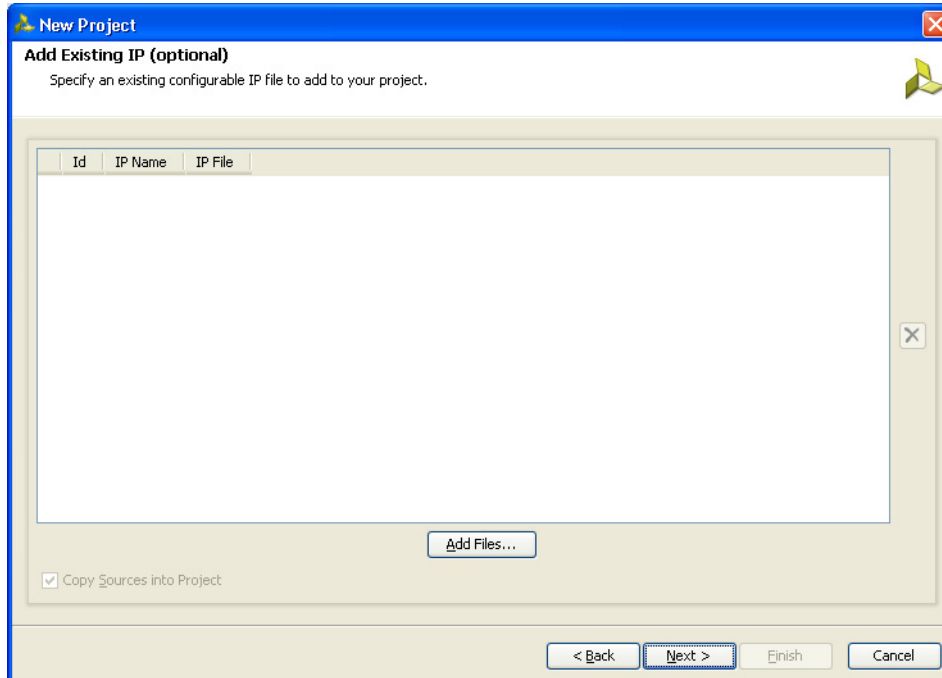

Figure 2-6: Add Existing IP (Optional)
6. Click **Next** to open the Add Existing IP (Optional) page (Figure 2-6). If the IP is already created, the XCI file generated by the IP can be added to the project and the previous created IP files are automatically added to the project. If the IP was not created earlier, proceed to the next page.